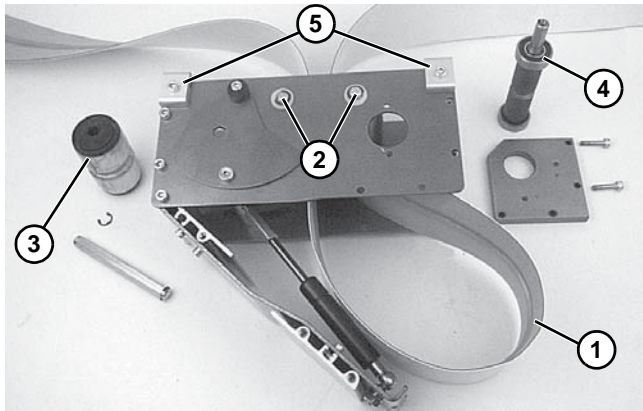

Figure 72
- Place loop of belt (**Figure 72, item 1**) into the drive module between top idler pulleys (**Figure 72, item 2**).
- Place grooved idler pulley (**Figure 72, item 3**) into the belt loop and install it in the drive module. Refer to “Belt Removal from Drive Module” on page 34 and reverse step 3.
- Place drive pulley (**Figure 72, item 4**) into the belt loop and install it in the drive module. Refer to “Belt Removal from Drive Module” on page 34 and reverse steps 1 and 2. Tighten screws (**Figure 50, item 1**) to 60 in-lb (6.8 Nm).
- Install the drive module onto the conveyor and attach clamps (**Figure 72, item 5**) in each corner. Tighten screws to 60 in-lb (6.8 Nm).